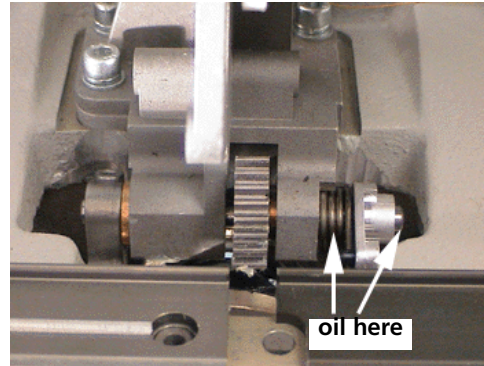

Figure 7-25
7. Please note that for illustration purposes, *Figure 7-25* reflects a front view without a needlecase, while you will be looking at the machine from the right side of the needlecase.
Add 2-3 drops of sewing machine oil to the torsion spring next to the take-up lever drive spring lever. (See *Figure 7-25*).
Add 2-3 drops of sewing machine oil to the right side of the take-up lever drive spring lever on the shaft. (See *Figure 7-25*).